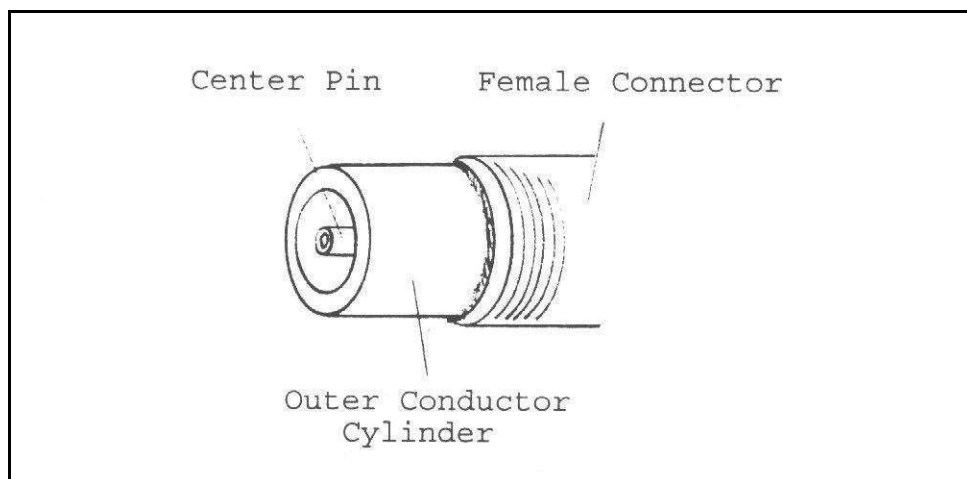

Figure 5: Delay Line external conductor for 1.85, 2.4, 2.9 & 3.5mm
2. Insert the external conductor of the Delay Line in the cavity of the female connector, sliding it over the already positioned centre pin (Figure 5).